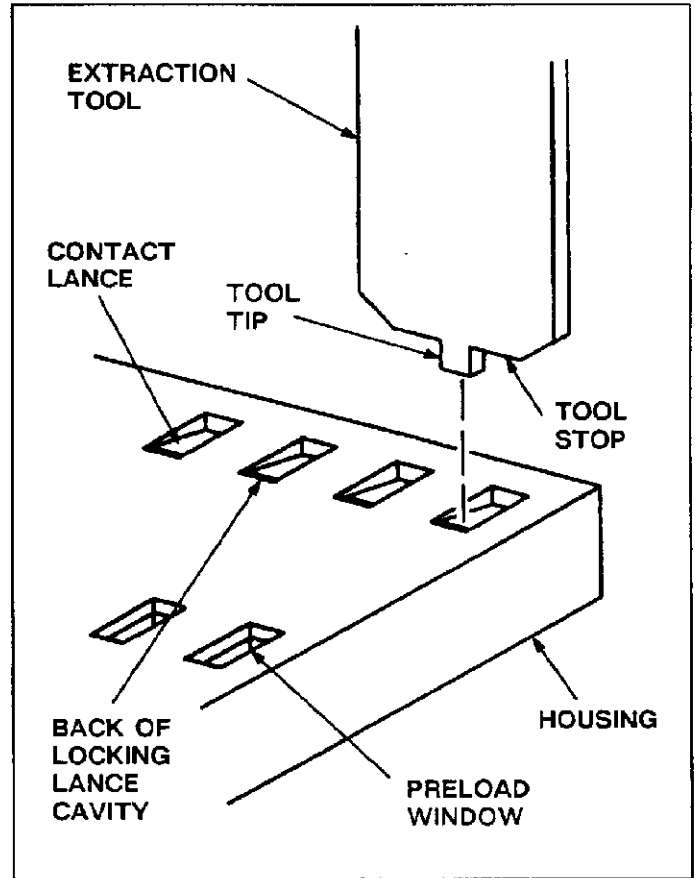

Fig. 7
5. EXTRACTING CONTACTS (Figure 7)